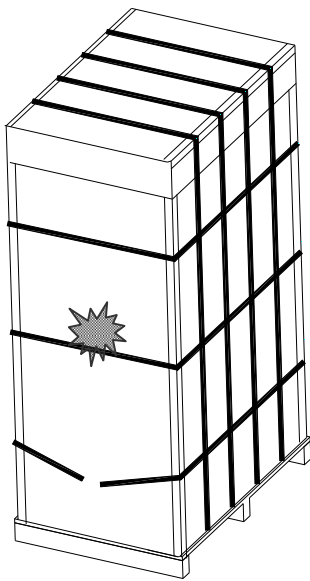

Fig.3-1
1. Cut off the packing strap and remove the cardboard around the unit (see Fig.3-1);